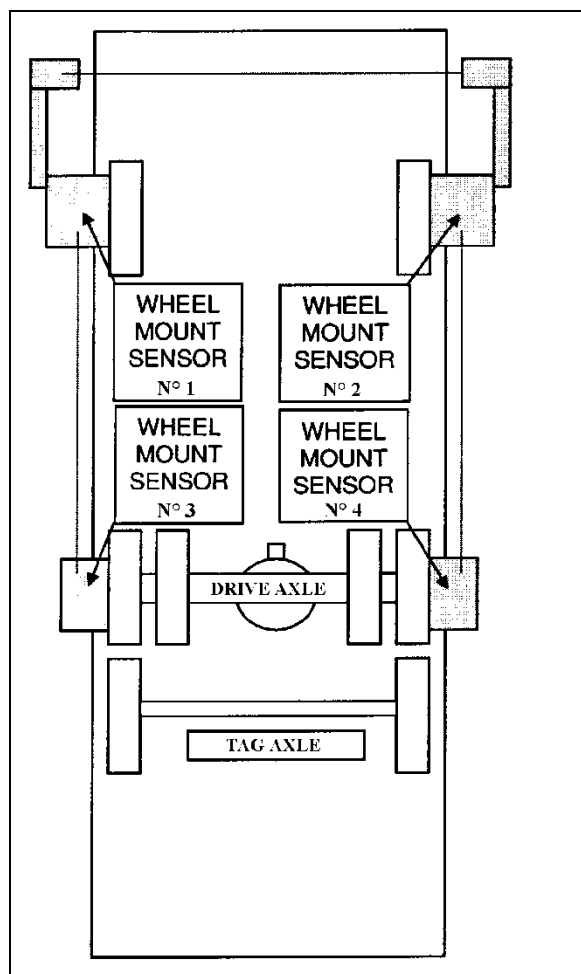

FIGURE 5: FRONT &amp; DRIVE AXLE ALIGNMENT 11025
3. Install wheel mount sensors on front end and drive axle wheels (Figure 5).